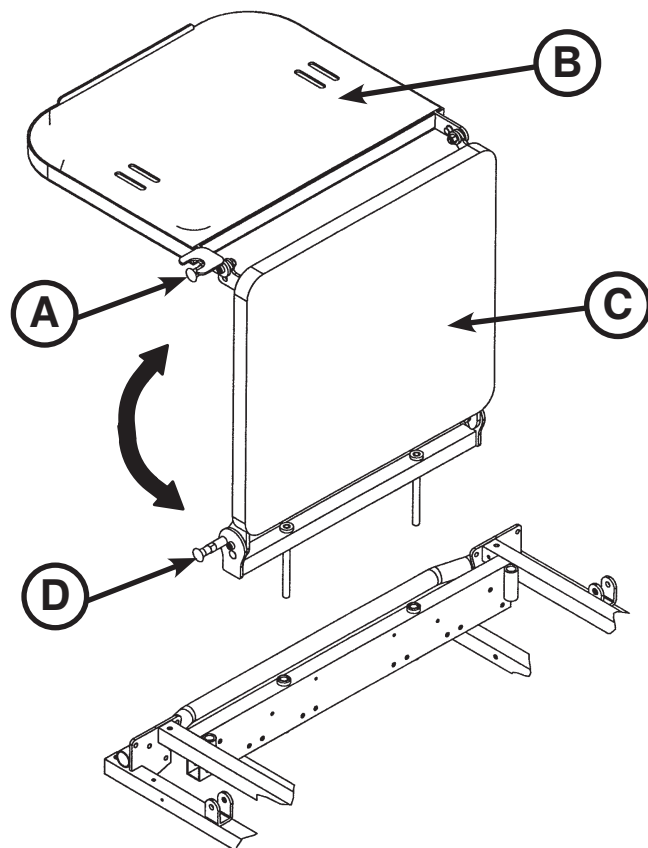

Figure 11.2: Foot Extension/Defibrillator Tray - Foot End
To use as a defibrillator tray, pull out the top knob (A) and pivot the tray (B) over the foot extension (C) until the tray extends flat over the foot end of the stretcher as shown in Figure 11.2.
To use as a foot extension, pull out knob (A) and pivot the defibrillator tray back until it locks against the foot extension (C). While holding onto the assembly, pull the bottom knob (D) and lower the foot extension down until it is flat as shown in Figure 11.2.